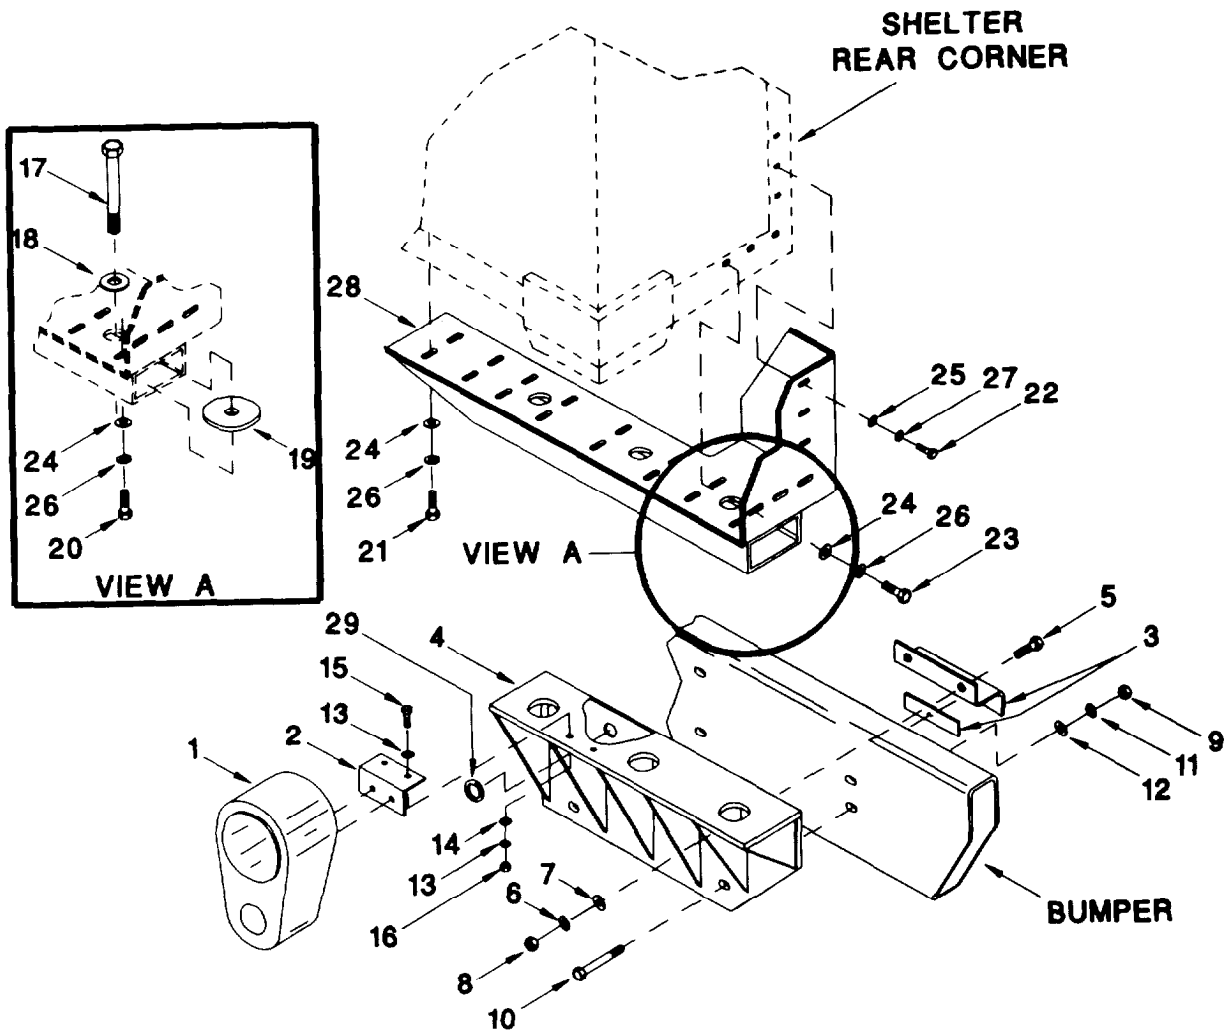

Figure 3-2. Rear Bracket Mounting Assembly
a. Vehicle Preparations. (Refer to Figure 3-2)
(1) Remove wheel well side panels located on each side of vehicle per TM 9-2320-280-20.
(2) Remove antenna mount from rear of vehicle per TM 9-2320-280-20. Carefully feed antenna cable back through wheel well grommet, place protective cap over connectors, and secure cables behind cross member support in wheel well.
(3) From inside the curbside rear wheel well, remove the wiring harness clamp mounting bracket.
(4) Remove cable clamps from wiring.
(5) Remove tail lights from HMMWV lower frame per TM 9-2320-280-20. Retain hardware.
(8) Secure tail lights (1) to tail light mounting brackets (2) using bolts and washers removed in step (5).
(7) Make a single cut through grommet and place it around the tail light wiring.
(8) Remove camlock fasteners from the vehicle mounting beam located in the front of the vehicle's bed, both sides. Refer to TM 9-2320-280-20.
(9) Remove strap tie down ring from the front of the bed floor, passenger side. Refer to TM 9-2320-280-20.
b. Rear Shelter Preparations. (Refer to Figure 3-2)